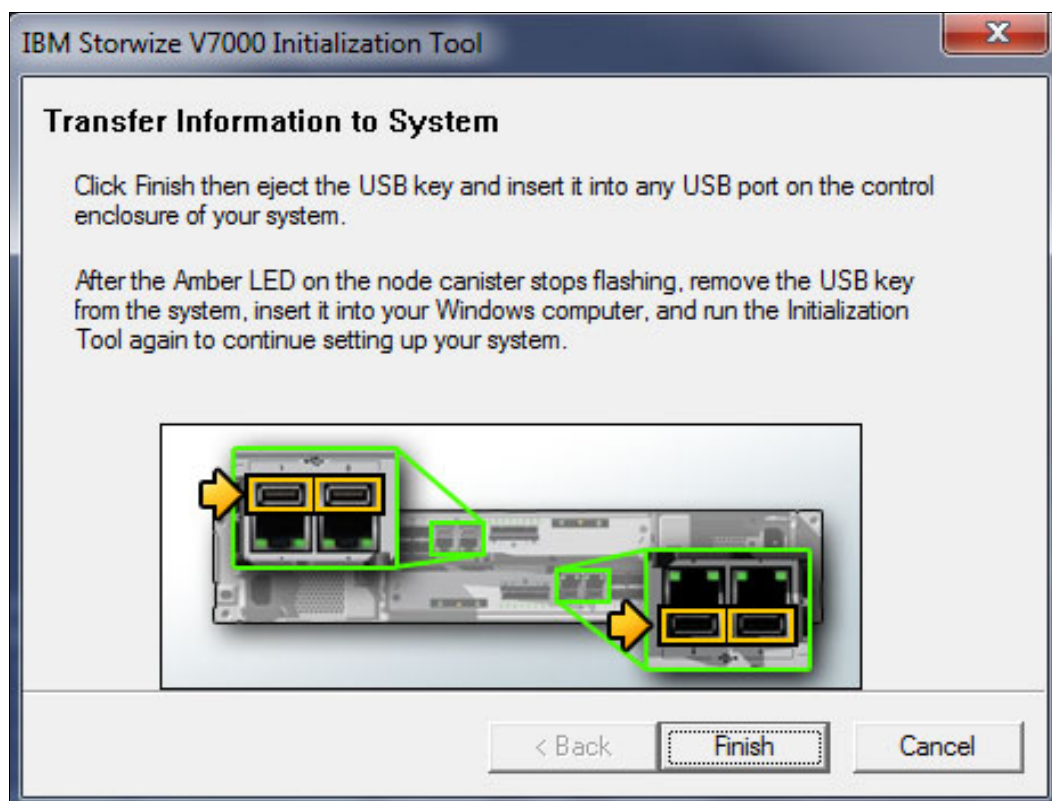

Figure 2-10 Initialization application: Finalizing the initial setup
3. Click **Finish** (Figure 2-10).